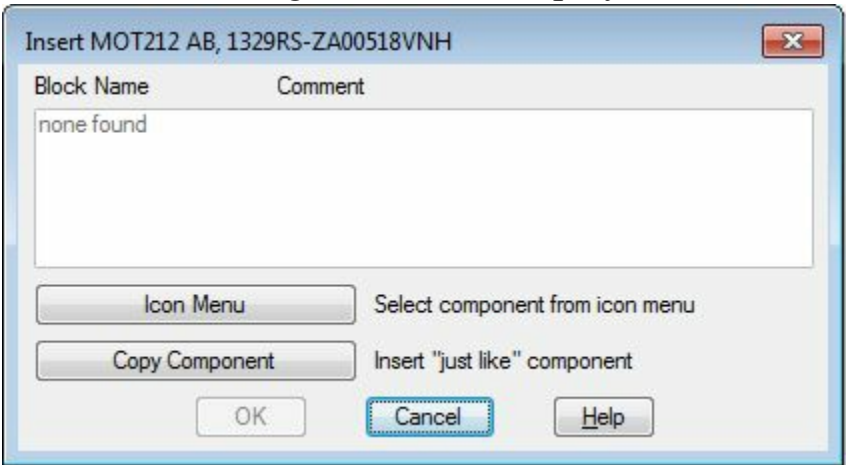

Figure-32. Insert dialog box
- Click on the **Insert** button from the dialog box. If there is no symbol assigned to the component then the **Insert** dialog box will be displayed as shown in Figure-32.